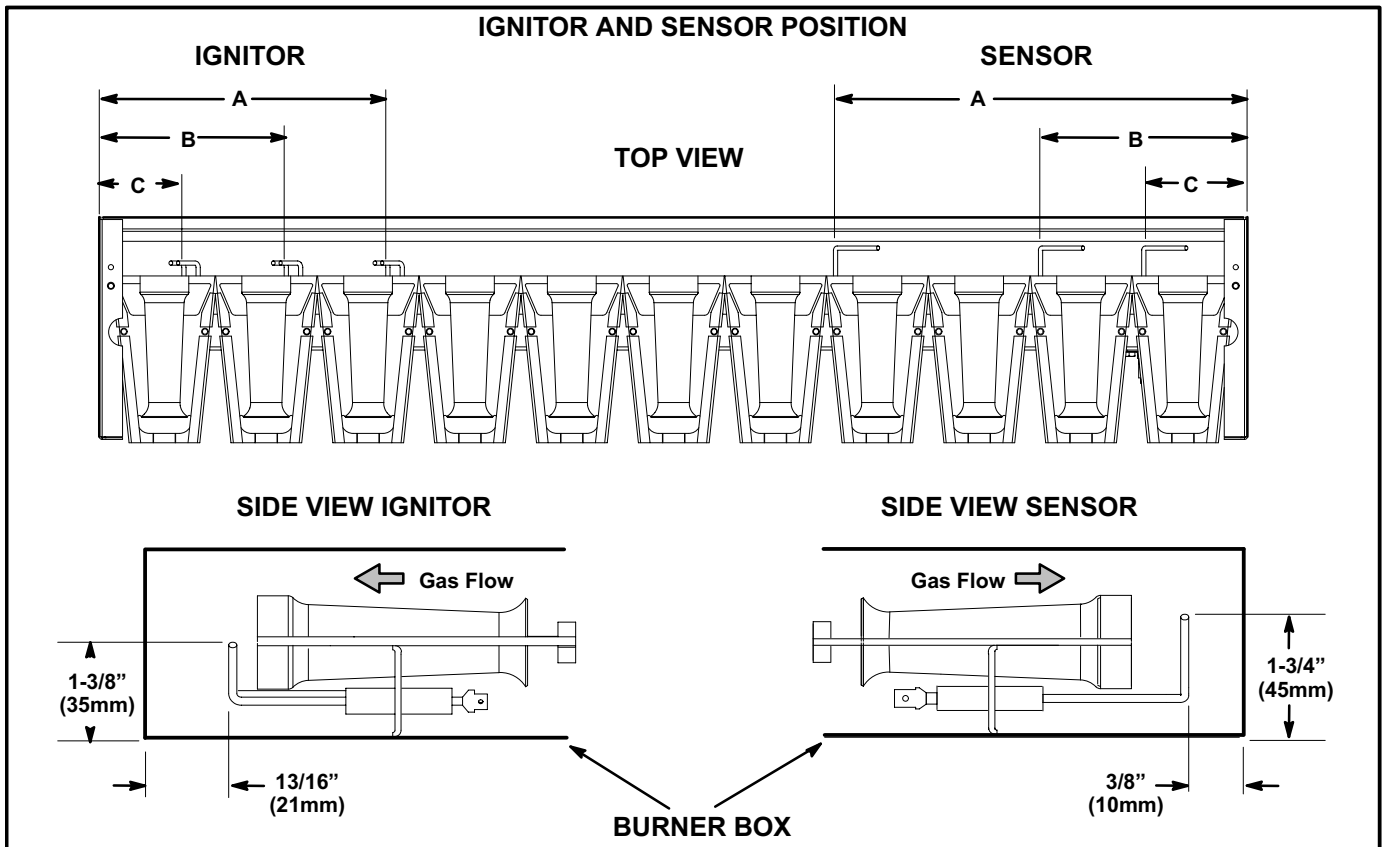

FIGURE 19
- 5- Check the alignment of the ignitor and the sensor as shown in figure 19 and table 16.